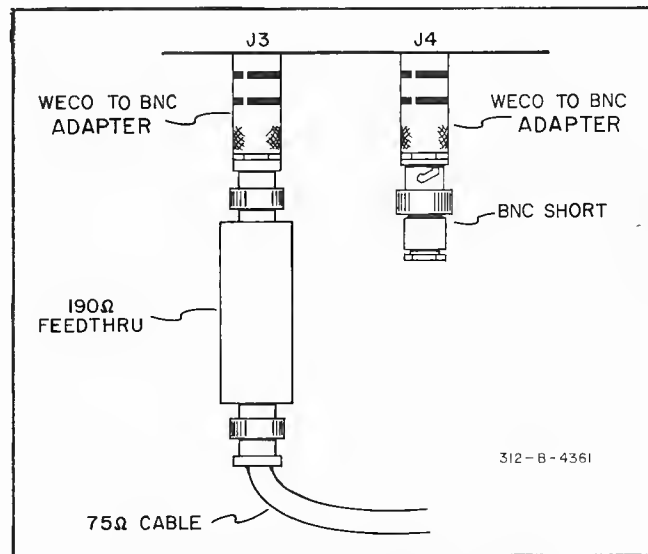
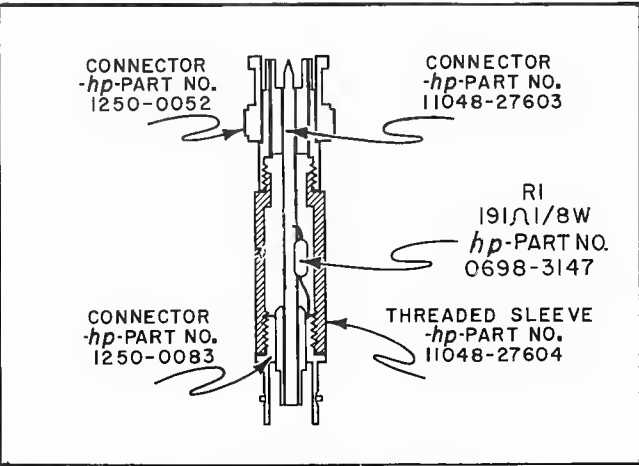

Figure 5-1(b). Use of Adapters – 312D.
Figure 5-2. 190 Ohm Termination.
- b. Connect the 313A output to the J3 input of the 312D and a short across J4 as shown in Figure 5-1(b). The construction of the 190 ohm termination is shown in Figure 5-2.